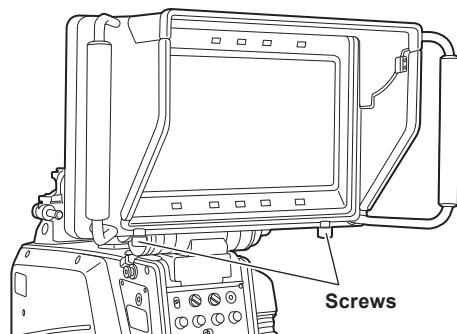

Fig. 3
**2** Fix with the two screws at the bottom of the hood. (Fig. 3)